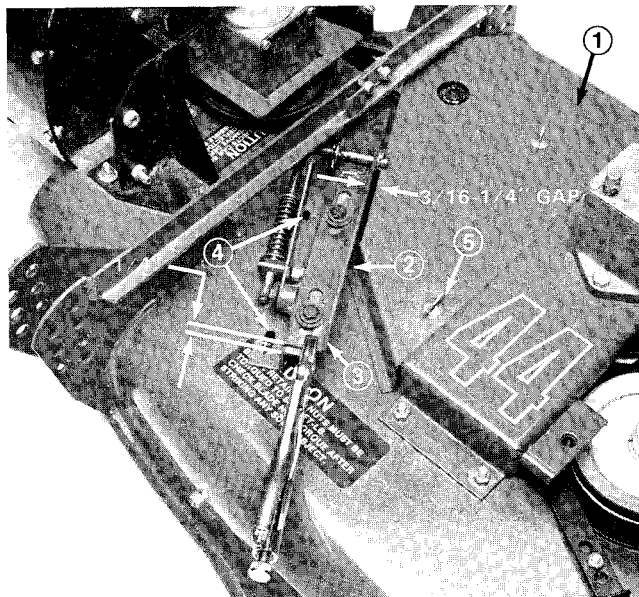

Figure 12
20. Install new deck belt cover (Fig. 12).
Note: For older cutting units with knob type cover fasteners, the 1/4 turn fastener holes on the new deck cover must be punched out (Fig. 12).
1. Adjust idler slide so there is 1/4" from end of slide to end of mounting bracket. Clamp slide to retain this position while mounting to deck (Fig. 12).
2. Position idler assembly on deck so edge is parallel with belt cover and there is a 3/16-1/4" gap (Fig. 12).
3. With idler assembly clamped, slide idler pulley firmly into blower belt (Fig. 12).